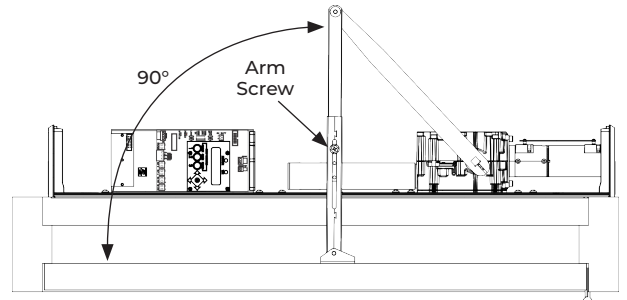

Fig. 16 View: Looking up from floor
3. With door fully closed, rotate main arm toward latch edge of door until arm tube is at 90° angle (perpendicular) to door. (Fig. 16)
4. Use arm screw provided with main arm to secure rod to tube. (Fig. 16)